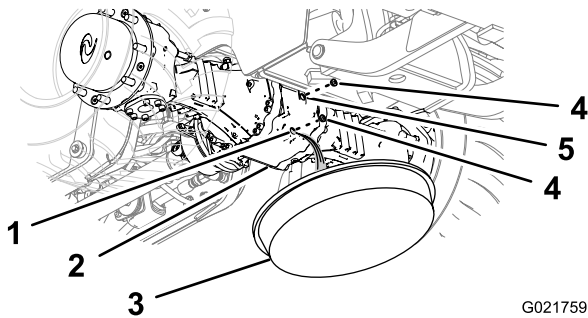
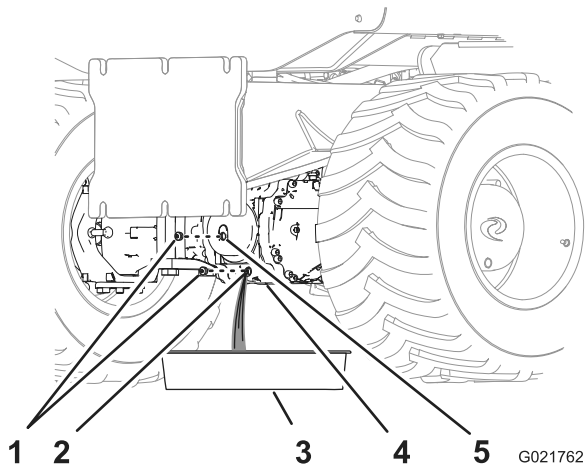

Figure 68
Figure 69
1. Place a drain pan under the pinion housing of the axle (Figure 68 and Figure 69).
2. Remove the plugs from the sight port and the drain port of the pinion housing (Figure 68 and Figure 69).